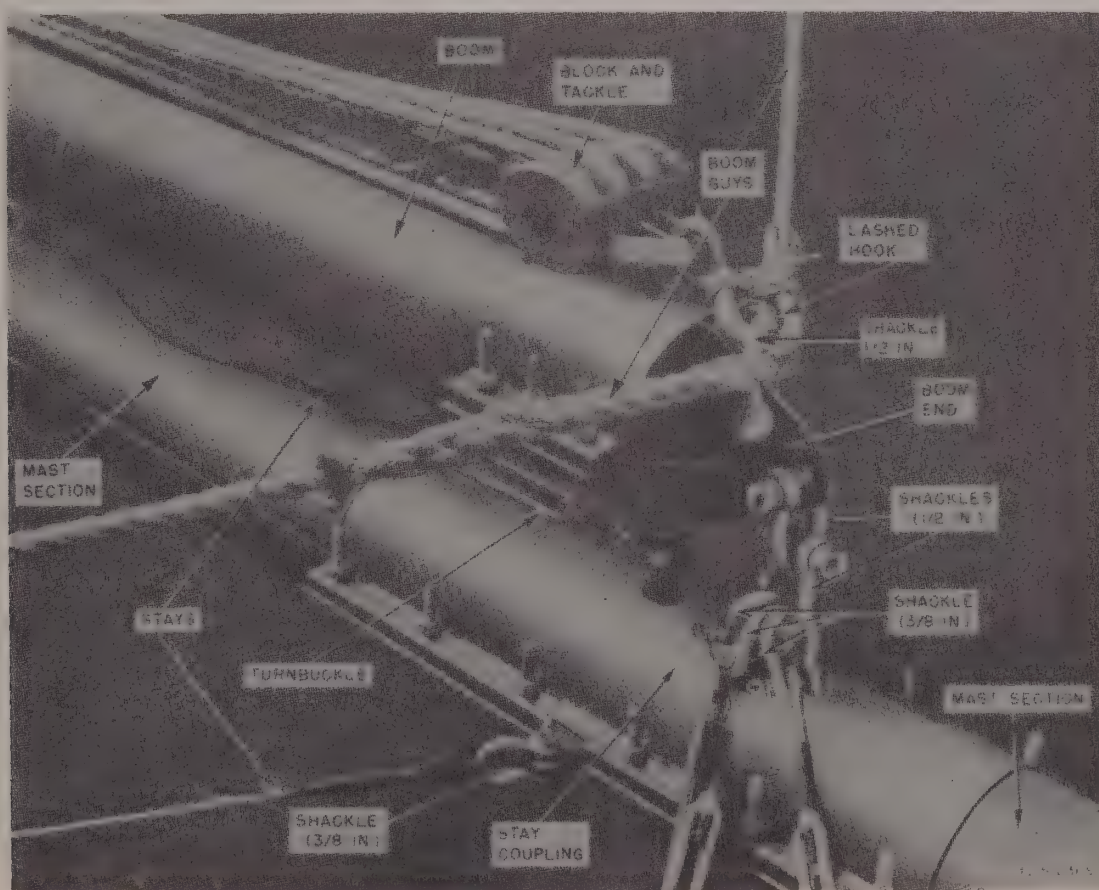
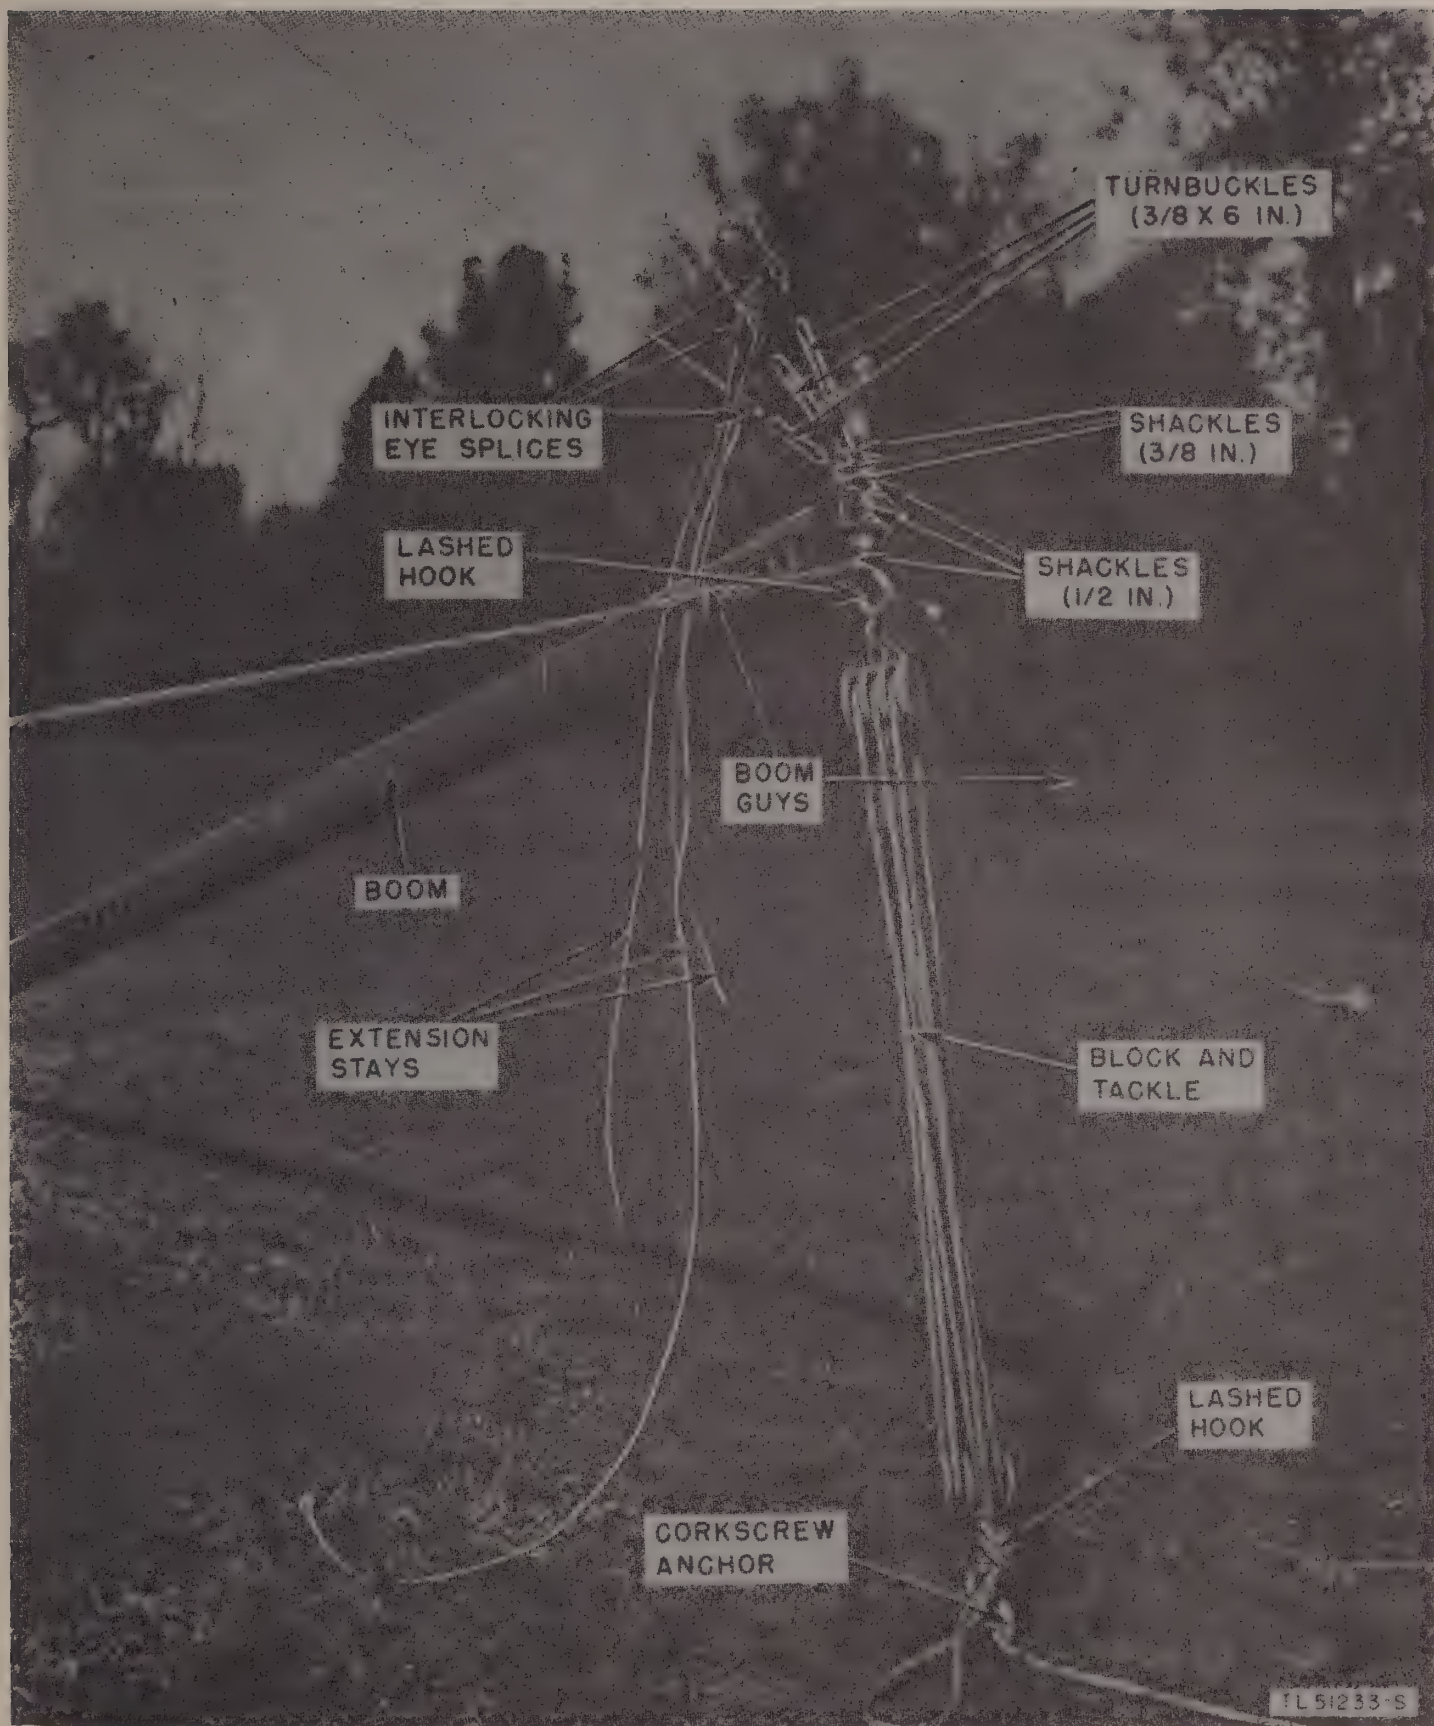

Figure 10. Boom end assembly, top.
Figure 12. Boom assembly in action.
(6) Using 1/2-inch shackles, connect the anchor chain to each anchor (fig. 12).
guys to the boom end plate (fig. 10). Adjust the toggle so that there is an even tension on both guys and so that the guys are fairly tight.
e. Block and Tackle. Using a $\frac{1}{2}$ -inch shackle, fasten the block with becket to the boom end (fig. 12). Lash the block hook so that it cannot slip out of the shackle. Fasten the other block to the boom anchor lashing the block hook.
section of D stay to boom end plate (fig. 12). During erection of the mast the extension stays, or short section of the D stays, hang loose from the interlocking eye splices. Connect the turnbuckles on the long section end of the D stays to mast. Using $\frac{3}{8}$ -inch shackles, connect the turnbuckles on the interlocking eye splices of the D stays to the two $\frac{1}{2}$ -inch shackles and to boom end plate as shown in figure 10.
(5) *Connecting D Stays to Anchor Chain.* The long sections of the stays connect the mast to the boom end; with the extension stays, they can be connected to the D anchor (fig. 12). When raising the mast, the extension stays are not used; they hang free. After the mast has reached the vertical position, the D stays must be removed from the boom and with the use of the extension stays must be shackled to the D anchor. Working with one stay at a time, disconnect the turnbuckle from the boom end assembly and from the stay. Connect the turnbuckle to the free end of the extension stay. Pull the entire stay as taut as possible by hand. Using a $\frac{3}{8}$ -inch shackle, connect the stay to a link near the free end of the D anchor chain. Repeat this procedure for each of the other two D stays.